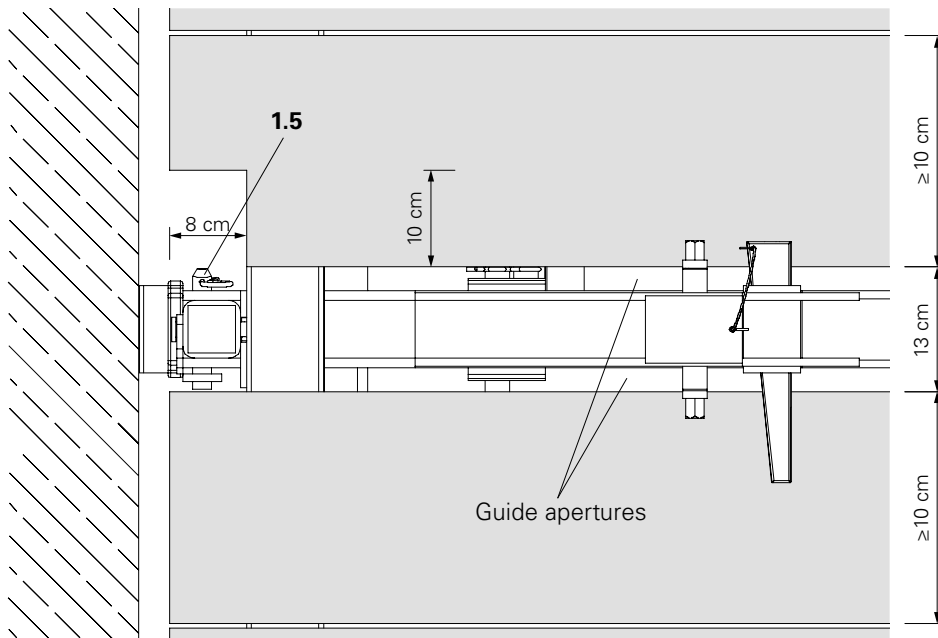

Fig. A1.26
- guide apertures on both sides of the carriage: 10 – 15 mm. (Fig. A1.26)